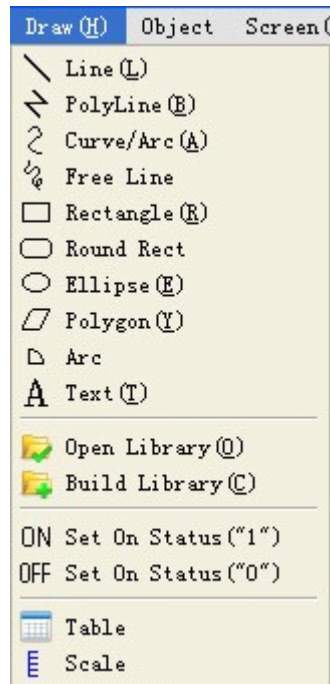

Figure 2-30: Draw menu
This menu is mainly used to draw pictures. SKWorkshop provides Line (L), Polyline (B), Curve/Arc (A), Free line, Straight Connection Line, Curve Connection Line, Rectangle (R), Ellipse (E), Polygon (Y), Text (T), Open Library (O), Build Library (C), Set ON Status, Set OFF Status, Table and Scale. This menu can be also used to open and close tool box. A “√” on the left of the command indicates the tool box has been displayed in the screen. Using picture elements built with the Tool menu, designers can conveniently change the color, text, size and position of these elements. See Figure 2-30.